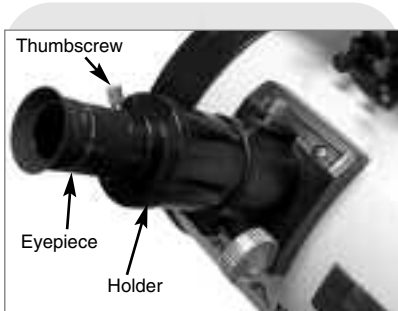

Fig. 10a: Insert eyepiece into holder and tighten thumbscrews.
10. **Insert the eyepiece: Schmidt-Newtonian and Newtonian models (Fig. 10a):** Lift to remove the dust cap from the eyepiece holder on the focuser assembly. Set the dust cap aside in a safe place and replace it when you have finished observing to protect the eyepiece assembly. Back off the eyepiece thumbscrews (1, Fig. 1a) and insert the supplied SP 26mm eyepiece (3, Fig. 1a) into the eyepiece holder. Tighten the holder thumbscrews to a firm feel to secure the eyepiece.